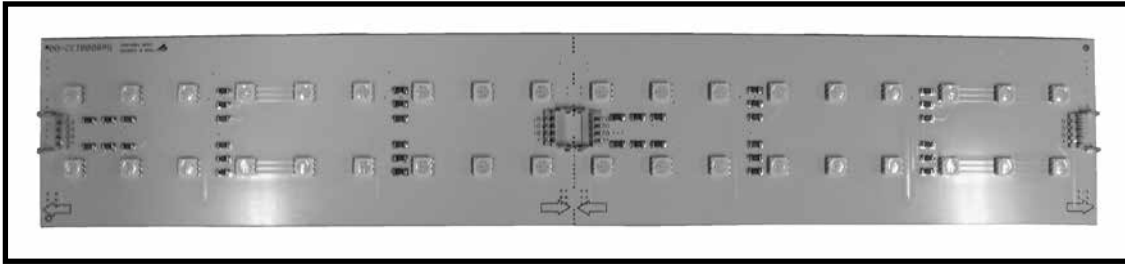
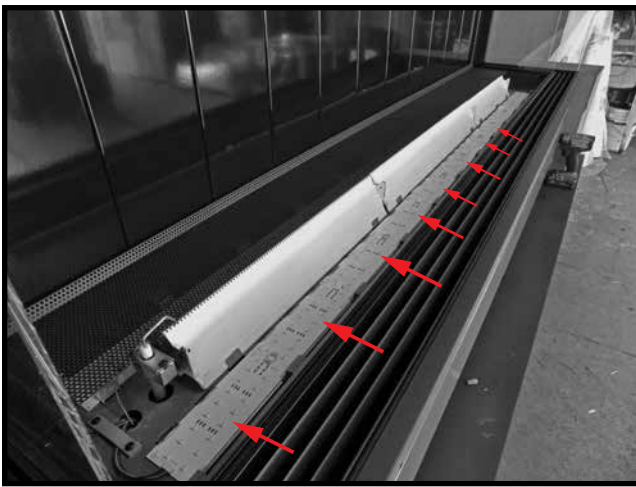
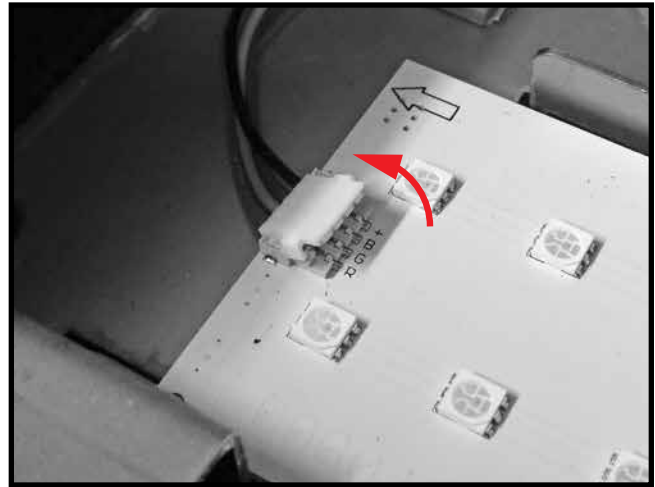
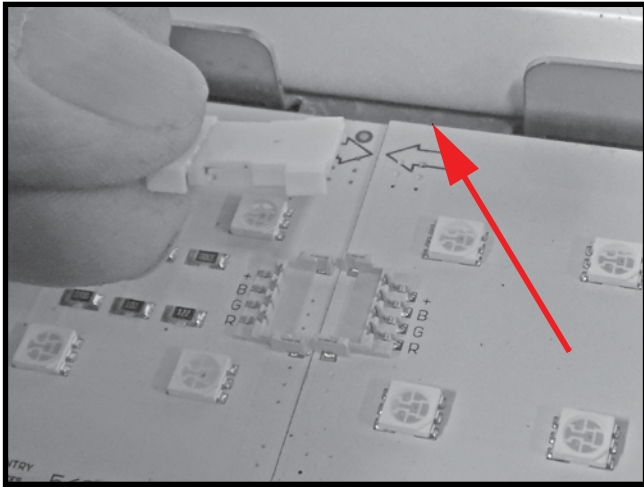

Figure 57: Individual LED section.
Figure 58: LED individual sections joined together.
Figure 59: LED connector.
Figure 60: LED strip bridge connector.
There are two rows of LED lights in this fire feature, one row on each side of the burner. Each row of LED lights is made of individual LED sections (Figure 57) which can be joined together using bridge connectors to achieve the desired row length (Figure 58). Each row of sections also has its own main electrical connector (Figure 59).
4. Remove the bridge connector of the LED section(s) to be replaced (Figure 60). These connector tabs lift up much like the main electrical connector (Figure 59). In this way, individual LED sections can be replaced without removing the entire row of LED sections from the fire feature.
- Reconnect the individual LED sections using a bridge connector as shown in (Figure 60).
- Reconnect the main electrical connector as shown in Figure 59.